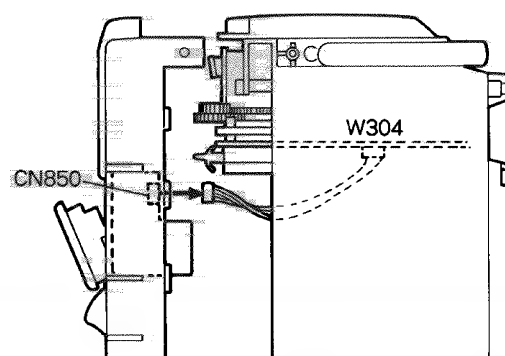

Fig. 7 - 4
■How to remove the cassette mechanism ass'y and main P.C. board ass'y(Fig.7 – 6)
1. Remove the two screws ⑤ retaining the cassette mechanism ass'y.